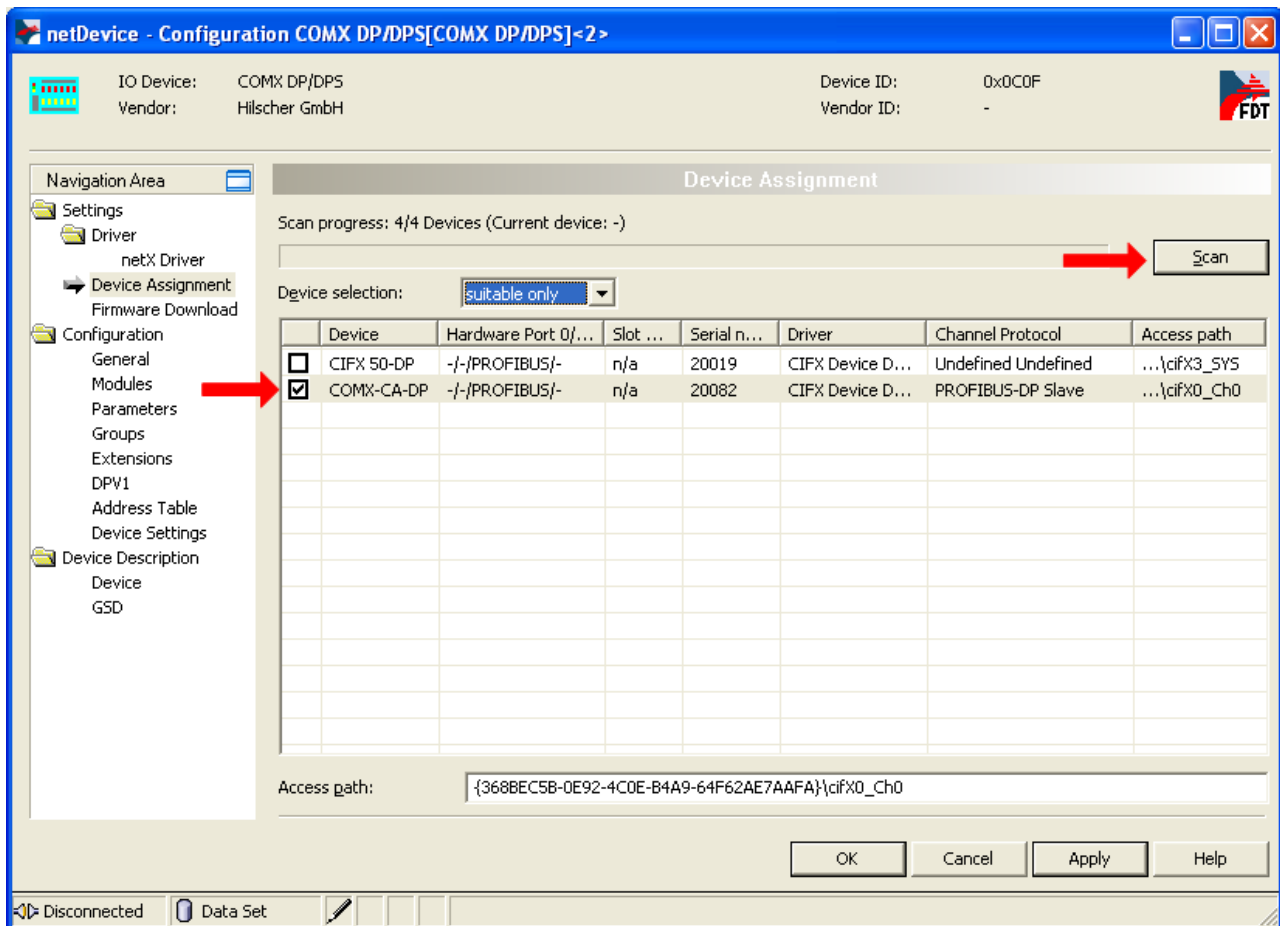

Figure 52: Starting the search process for devices and selection of device
- To start the search process for suitable devices, click the button *Search* (see *Figure 52: Starting the search process for devices and selection of device* on page 166, red arrow, top, right).
- To select the device, check the checkbox of the comX communication module whose firmware is to be updated (also see *Figure 52: Starting the search process for devices and selection of device* on page 166, red arrow, center).